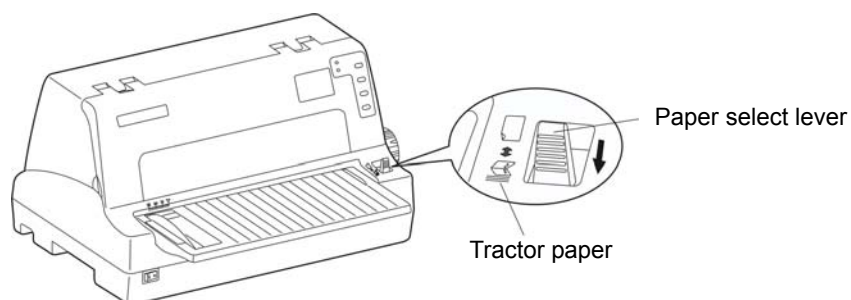

Figure 3-6 Adjust the Paper select lever (tractor paper)
2. Insure the paper select lever in the tractor paper mode as shown in Figure 3-6.